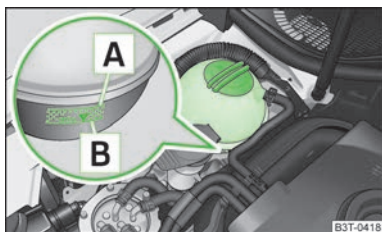

Fig. 117
When refilling, we only recommend you use the same antifreeze written on the antifreeze expansion tank » Fig. 117 on page 141.
- Check the level of coolant in the coolant expansion bottle » Fig. 117. The coolant level when the engine is cold must lie between the **B** (MIN) and **A** (MAX) markings. The level may also rise slightly above the **A** (MAX) marking when the engine is warm.
- Place a cloth over the cap of the coolant expansion reservoir » Fig. 117 on page 141 and unscrew the cap **carefully**.
Do not fill the coolant above the mark **A** (max.) » Fig. 117 on page 141! Excess coolant heats up and then is forced out of the cooling system through the pressure relief valve in the cap.